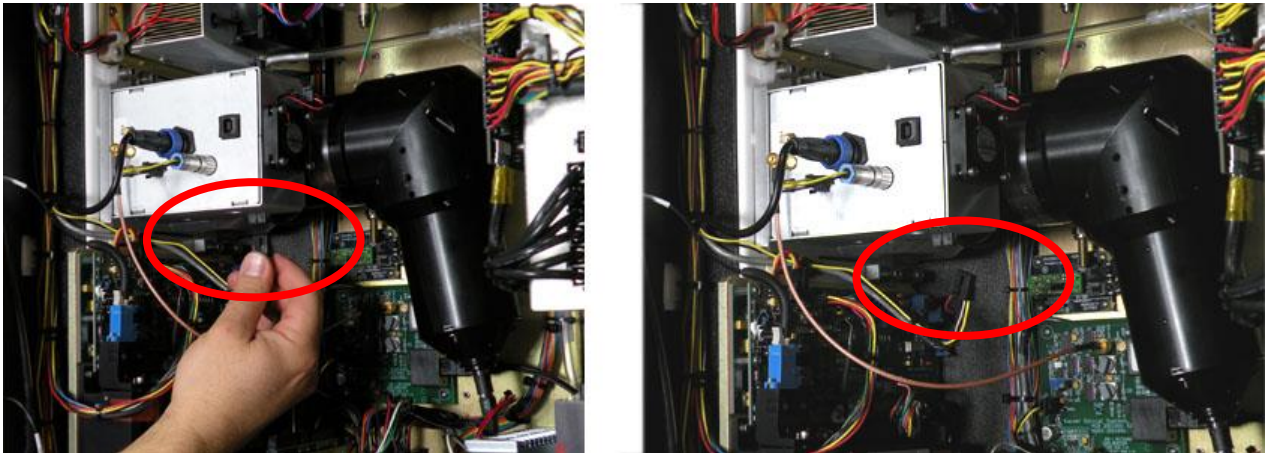

Figure 145. Remove electrical connection
2. Remove the electrical connection (Figure 145).